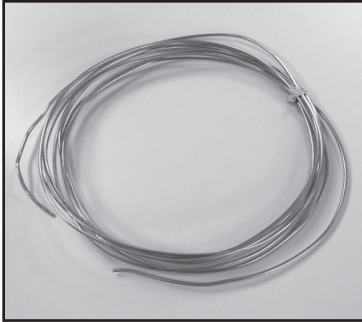
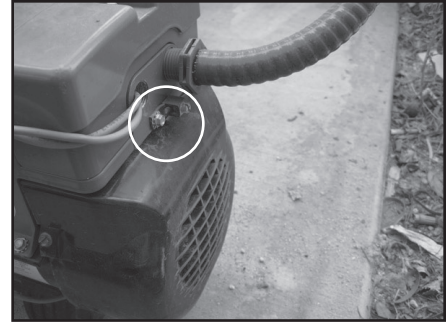

Figure 19. Bonding Wire
Figure 21. Pump Bonding Lug
18. Attach one end of the bonding wire to the bonding lug located on the bottom of the chassis backplate on the power pack. (see Figure 19 and 20). Attach the second end to a common bonding point such as the pool pump or heater. Make sure to refer to the pump or heater manual for the location of the bonding lug connection prior to making this connection. See Figures 21 and 22 for examples of bonding lug locations. Do not use the power pack as the common bonding point. There should only be one bonding connection to the power pack. Each piece of non-related pool equipment requiring a ground should also be bonded to the common, approved bonding point.